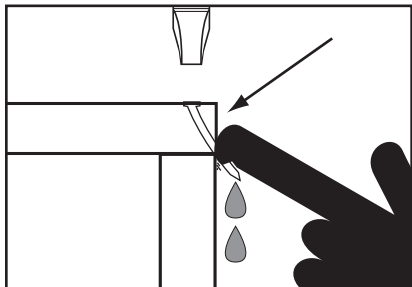

Figure 6. Example of staple deflection.
4. Before pulling the trigger, make sure your free hand and other body parts are positioned out of the way of a staple in case of deflection (illustrated below in **Figure 6**).